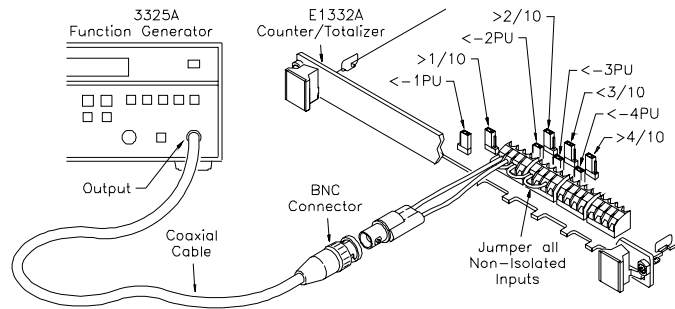

Figure 4-6. Input Filter Test Setup
1. Connect the equipment as shown in Figure 4-6.